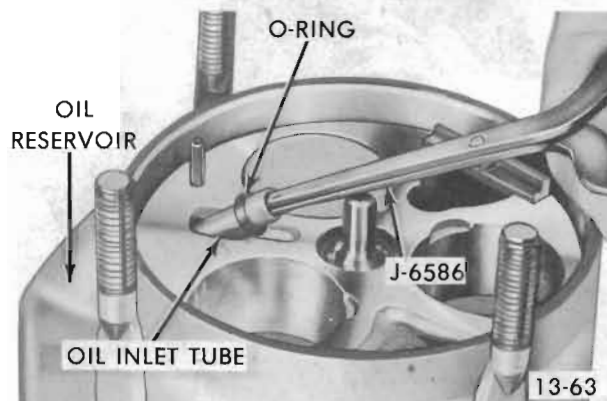

Figure 13-38 Removing Oil Inlet Tube
1. Pull out oil inlet tube (see Figure 13-38) and oil inlet tube "O" ring using Remover (J-6586).